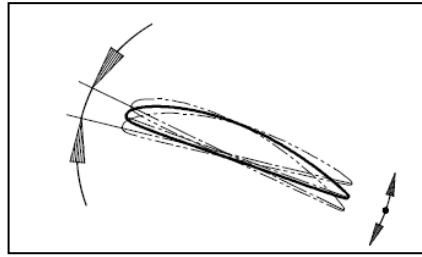

Fig. C-27 Blade angular play
- 1) Using pitch angle laser indicator P-307 measure angular play of each blade (Fig. C-27).